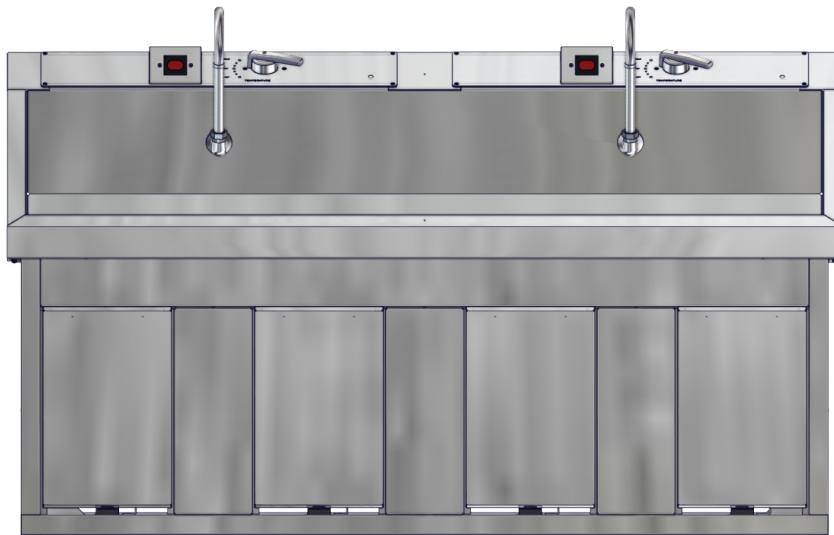

Fig. 16: IR sensors and housing installed on header
14. The repositioned IR sensors should appear as shown in Fig. 16. Plug the sink back into its power source.